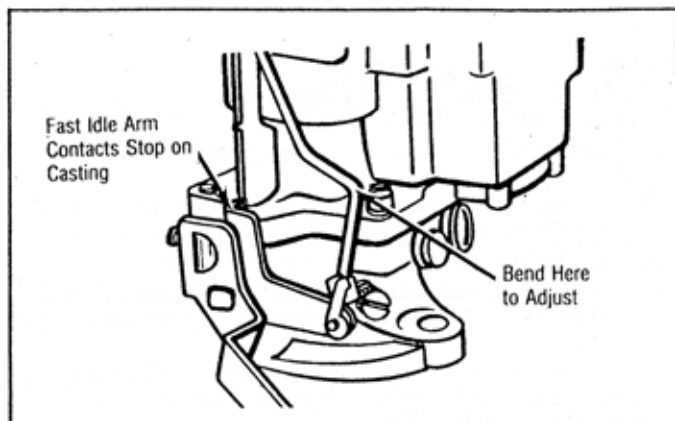

Fig. 8 Fast Idle Linkage Adjustment (Type B - If Equipped)
1. Hold choke valve wide open. Lip on fast idle arm should contact stop on body casting. See Fig. 8.